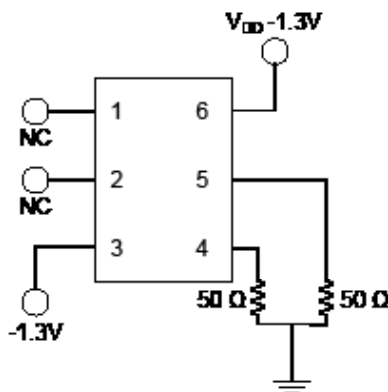
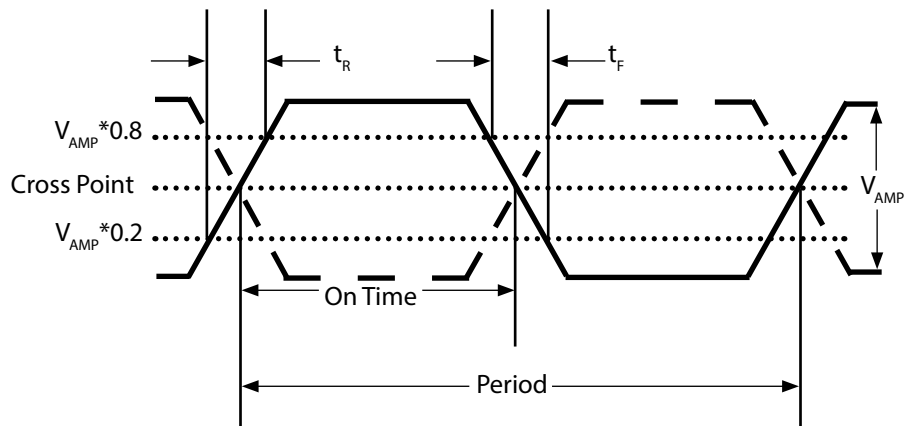

Figure 1.
Figure 2.
- Figure 1 defines the test circuit and Figure 2 defines these parameters.
- Figure 2 defines these parameters and Figure 3 defines the test circuit.